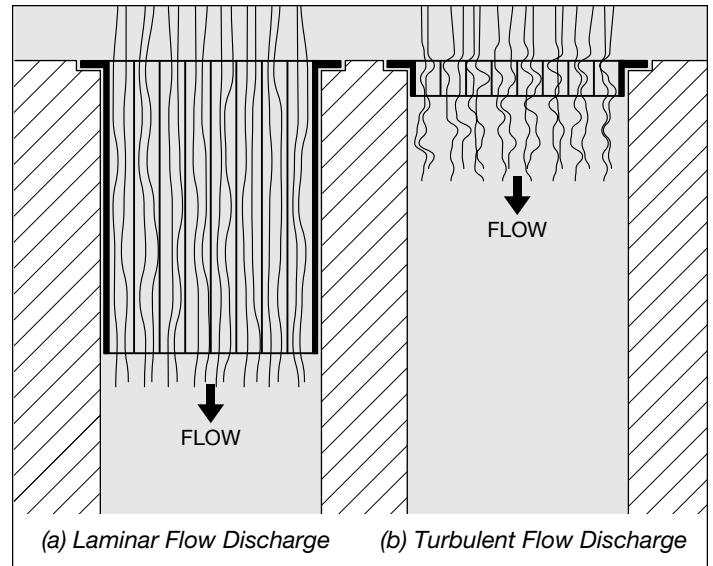
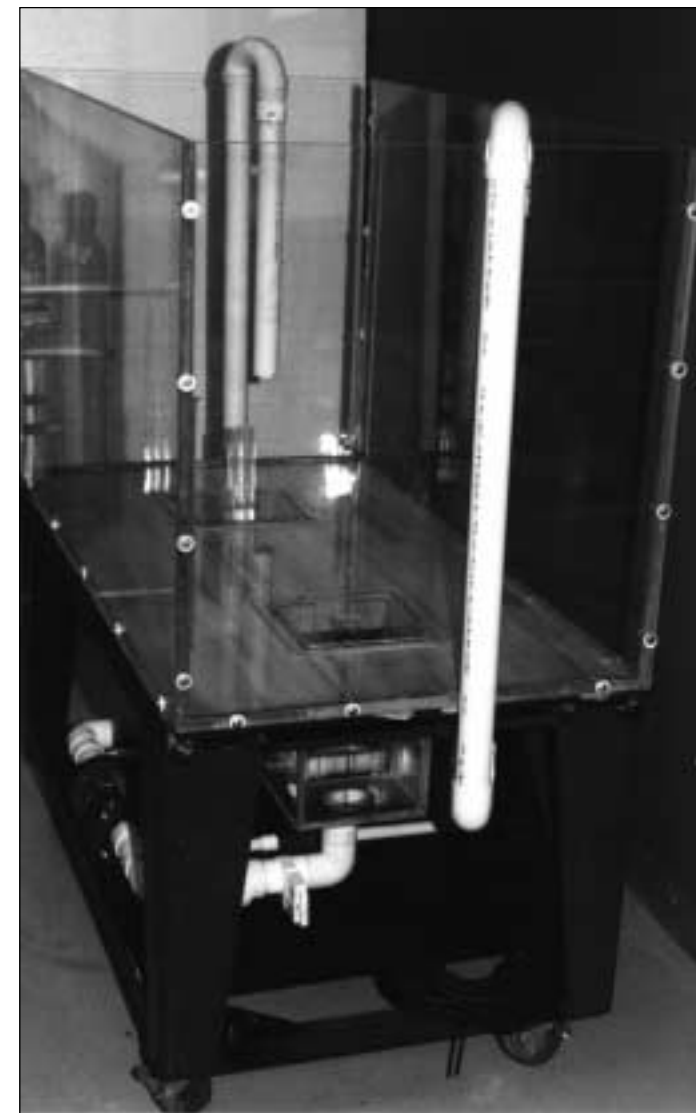

Figure 4 – Downstream Laminar Flow
Figure 9 – Drainage Test Tank
A second safety property of collimated gratings comes into play when hair strands are longer than L . Here, hair from neighboring grating tubes may intertwine. Figure 4 suggests that turbulent flow on the downstream side of gratings has a greater tendency to form knots in hair strands than laminar flow. We note that for circular tubes of diameter D , the ratio D/L may always be designed small enough to preclude turbulence.
4. The assertions relative to the laminar flow illustrated in Fig. 4 were demonstrated using the pool simulation fixture shown in Fig. 9.